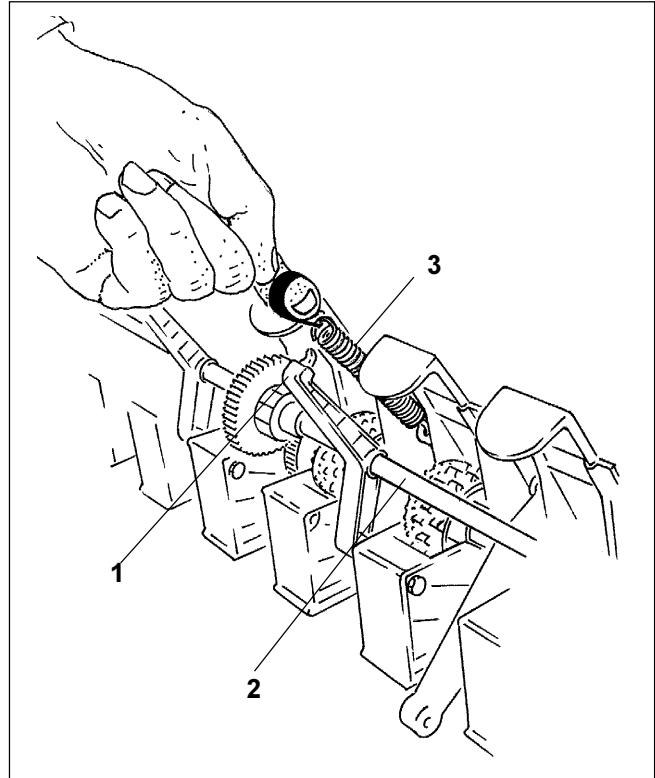
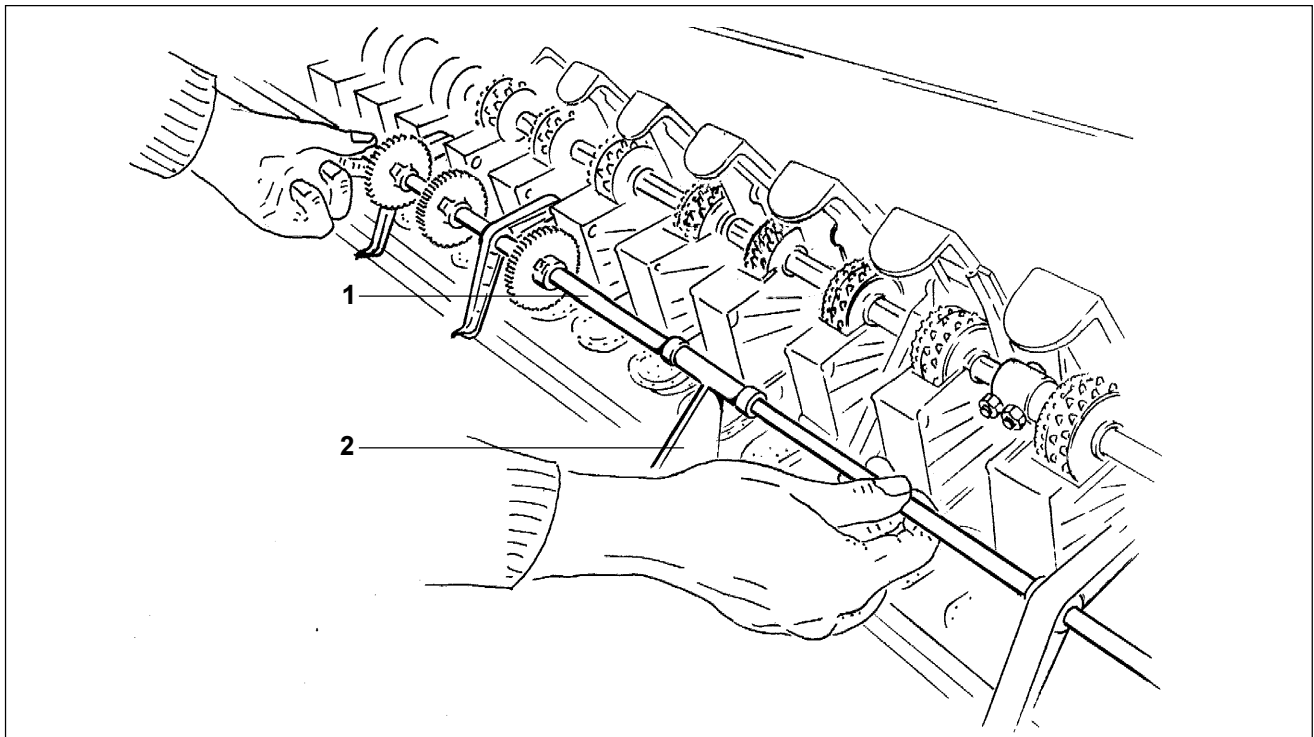

Fig. 18.23
Fig. 18.24
- The swivel bearings (Fig. 18.23/1) on the counter shaft (Fig. 18.23/2) are spring loaded. Remove the coil springs (Fig. 18.23/3) and swing the counter shaft downwards (Fig. 18.24/1). Note that there is a distance spacer frame / shaft carrier bracket (Fig. 18.24/2), which secures the counter shaft from axial movement is pulled out of the hole of a seed housing.